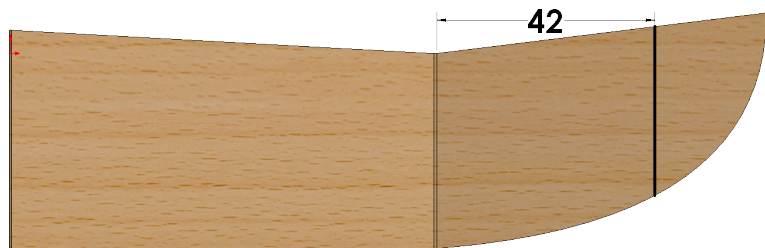

Fig. 25
Step 6. Add **42** dimension, **Fig. 25**.